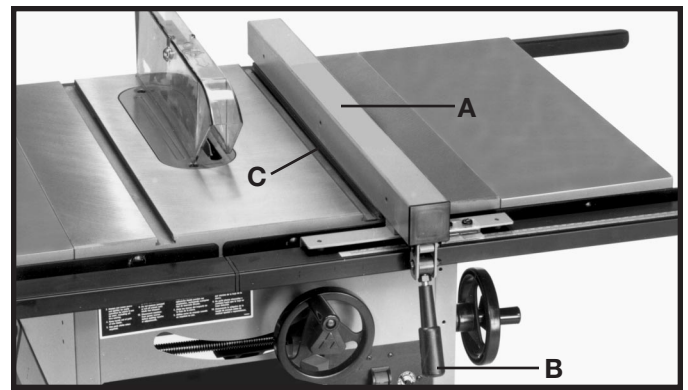
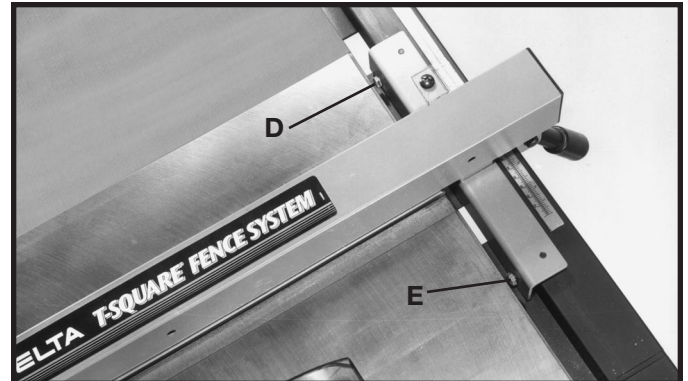

Fig. 46
Fig. 47
1. To move the fence (A) Fig. 46, along the guide rails, lift up on the fence locking lever (B), slide the fence to the desired location on the guide rails and push down on the locking lever (B) to lock the fence in position.
2. The fence (A) Fig. 46, must be adjusted so it is parallel to the miter gage slots (C). To check and adjust, move fence (A) until the bottom edge of the fence is in line with the edge of one of the miter gage slots as shown, and push down on the fence locking lever (B). Check to see if the fence (A) is parallel to the edge of the miter gage slot (C) the entire length of the table. If an adjustment must be made, slightly tighten or loosen one of the two adjusting screws (D) or (E) Fig. 47. Check again to see if the edge of the fence is parallel with the miter gage slot the entire length of the slot. Repeat this adjustment until you are sure the fence is parallel with the miter gage slot. **IMPORTANT: DO NOT REMOVE THE RIP FENCE FROM THE GUIDE RAIL TO MAKE THIS ADJUSTMENT. VERY LITTLE MOVEMENT OF SCREWS (D) AND (E) FIG. 47, IS NECESSARY TO ADJUST THE FENCE PARALLEL WITH THE MITER GAGE SLOT.**